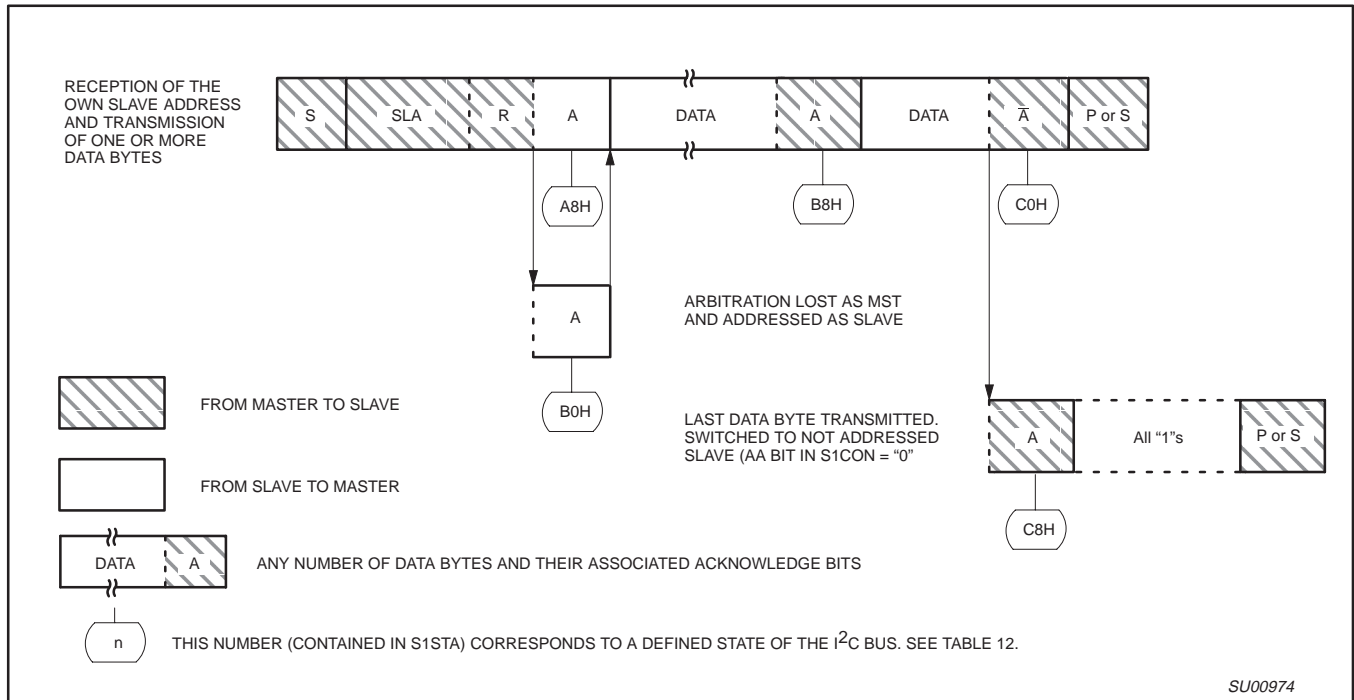

Figure 31. Format and States of the Slave Transmitter Mode
Slave Transmitter Mode: In the slave transmitter mode, a number of data bytes are transmitted to a master receiver (see Figure 31). Data transfer is initialized as in the slave receiver mode. When S1ADR and S1CON have been initialized, I²C waits until it is addressed by its own slave address followed by the data direction bit which must be logic 1 (R) for the I²C to operate in the slave transmitter mode. After its own slave address and the R bit have been received, the serial interrupt flag (SI) is set and a valid status code can be read from S1STA. This status code is used to vector to an interrupt service routine, and the appropriate action to be taken for each of these status codes is detailed in Table 12. The slave transmitter mode may also be entered if arbitration is lost while I²C is in the master mode (see state B0H).